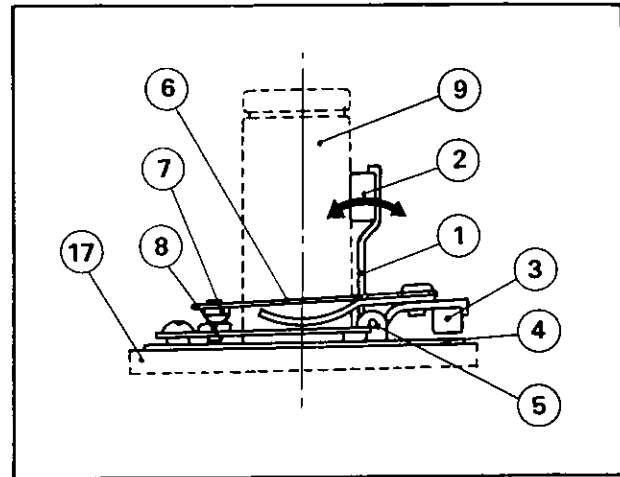

Fig. EF-5 Contact mechanism
In the contact mechanism, as shown in Figure EF-5, magnet A ② and B ③ are attached to each end of a L-shaped magnet holder ①. The magnet holder is mounted on a relay stay ④ by means of a hinge ⑤ in such a way that, along with vertically reciprocating motion of a plunger, located inside a cylinder ⑨ indicated by the dotted line, the holder makes an oscillating motion in the direction of the arrow as shown. Accompanying with the oscillating motion of the magnet holder, a point arm ⑥ attached to the horizontal part of the magnet holder moves up and down so that the contact A ⑦ attached to its end will come into contact B ⑧ fixed on the relay stay ④ to make switching.